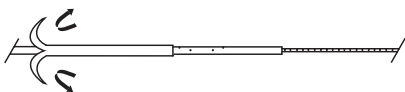

Fig. 3
c) After the initial advancement of the catheter over the wire guide, pull back and peel away the straightener for catheter advancement. (Fig. 3)